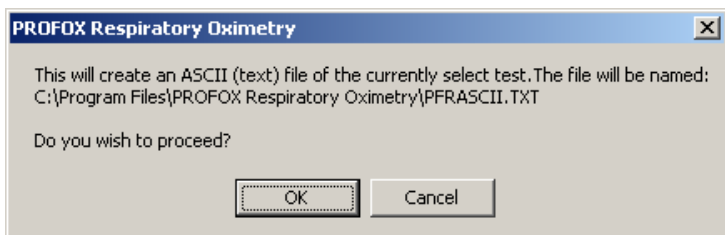

Figure 37. Profox: Naming the ASCII Text File
1. To access the ASCII (text) conversion function, select *Utilities* from the toolbar. From the drop down menu, select *ASCII (text) conversion*. The screen seen in Figure 37. Profox: Naming the ASCII Text File, below will appear: